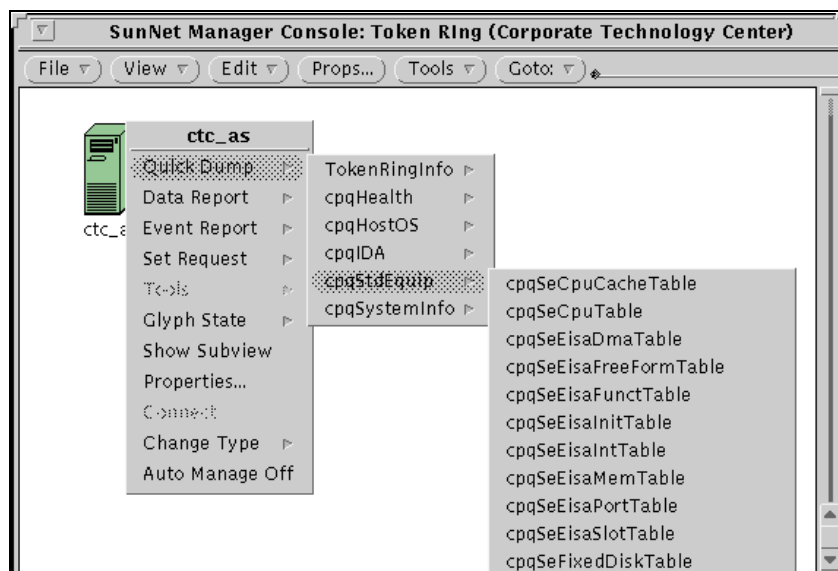

Figure 5-5. Requesting a quick dump for EISA configuration information
3. Highlight the EISA configuration attribute table, and make your request. Figure 5-5 displays a list of schemas containing EISA information.